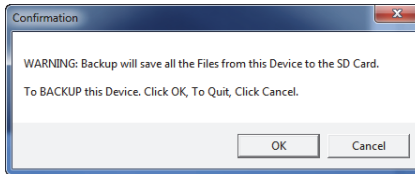

Figure 7-26 The Confirmation dialog box to confirm backup start
4. When the **Confirmation** dialog box appears (see Figure 7-26 on page 211), click **OK** to start the backup process.